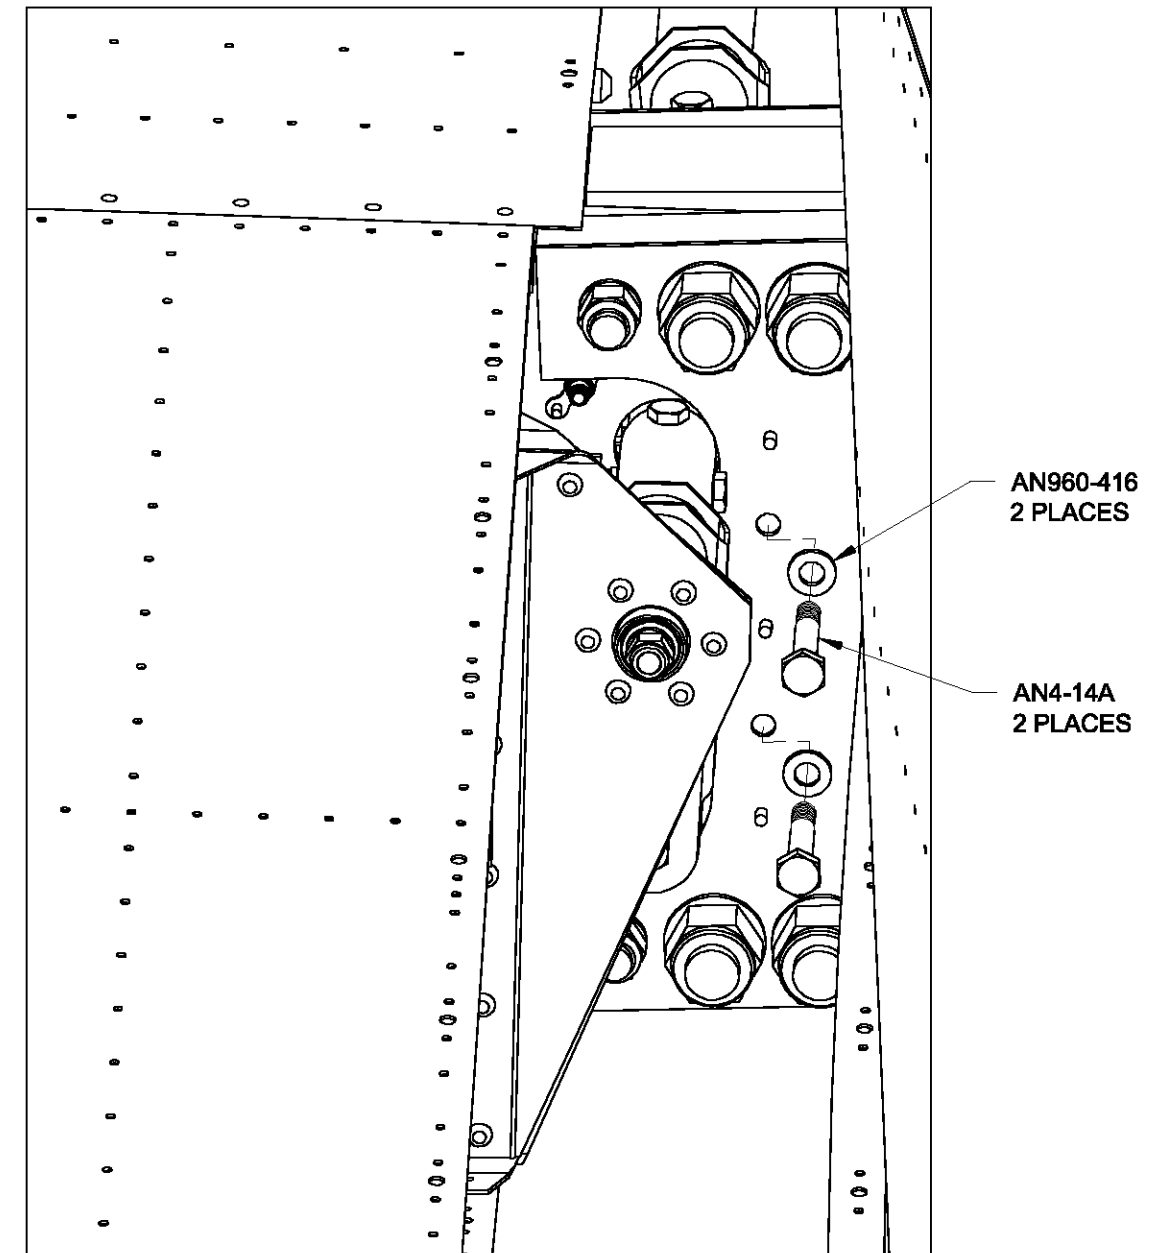

FIGURE 2: INSTALLING CENTER SECTION UPRIGHT BAR HARDWARE REAR VIEW
Step 2: Install the F-1004J Center Section Upright Bar (not shown) hardware as called out in Figure 2.
Step 5: Reinstall the VA-256 Flap Pushrod Assembly. See Page 44-5, Figure 2.
Step 7: Reinstall the F-Fuel Vent Fuselage Fuel Vent line. See Page 44-7, Figure 2.